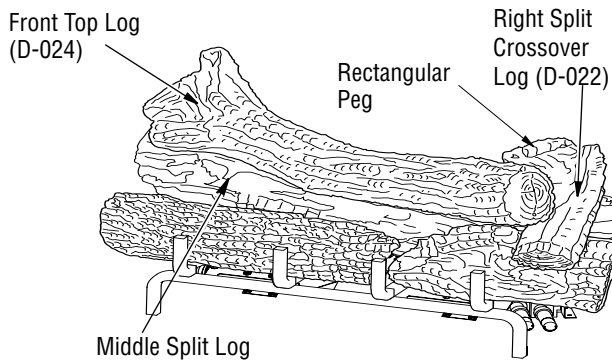

Figure 24 - Installing Front Top Log
7. For SouthernComfort logs, find the front top log (D-024). See **Figure 24**. The left end of this log has a square hole that fits over a square peg that is on the top of the middle split log. The right end of this log rests behind the knot on the top of the front right log.